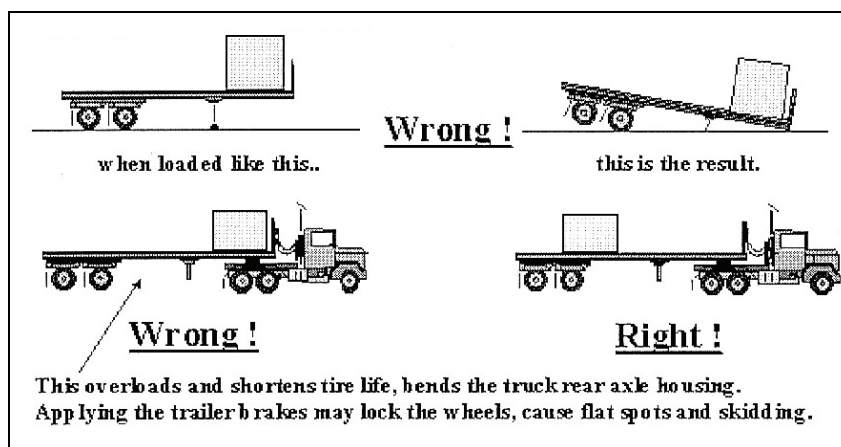
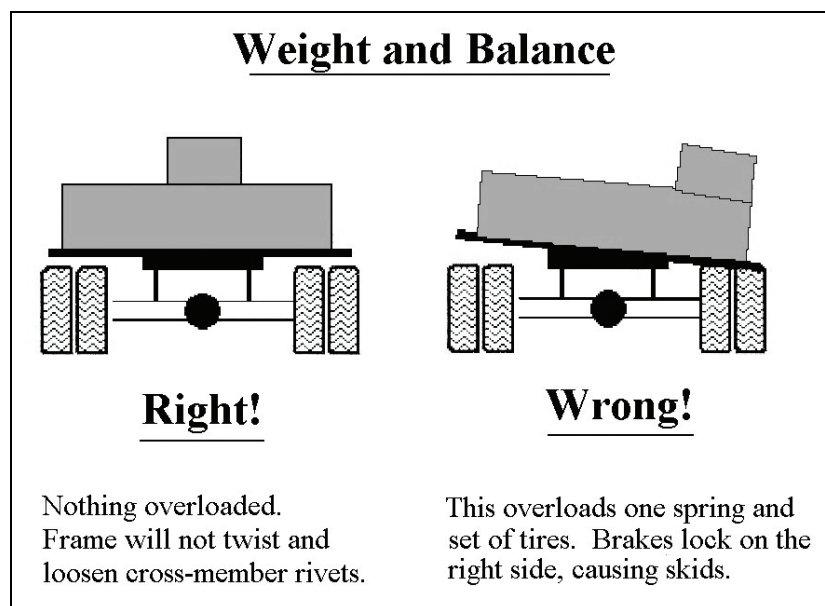

Figure 3-25a. Load Balancing
Figure 3-25d. Load Balancing
1. Ensure load is properly positioned for tiedown (see Figure 3-25a through Figure 3-25d).